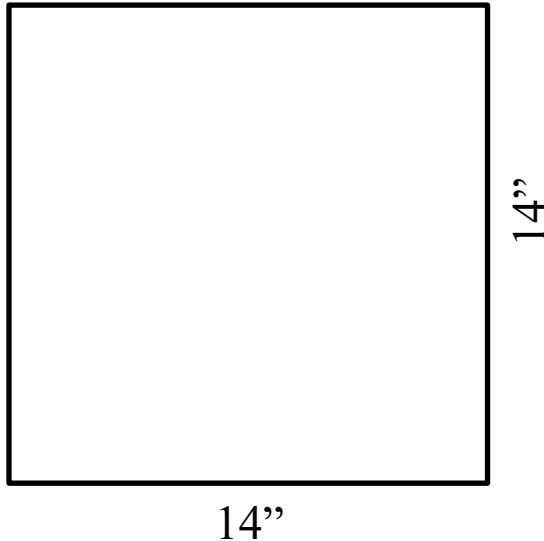

Figure R081
1. The length shall not exceed 14 inches (Figure R081)
2. The width shall not exceed 14 inches (Figure R081)
3. The height shall not exceed 14 inches (Figure R081)